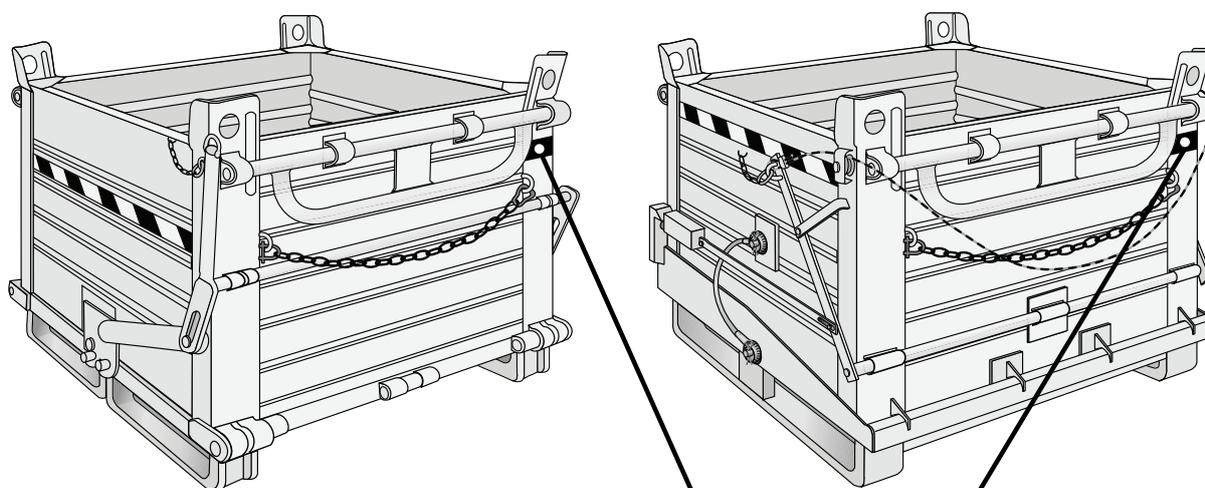

FIG. 2.1
- Fig. 2.1 indicates the MARKING plate positioned on a vertical upright.